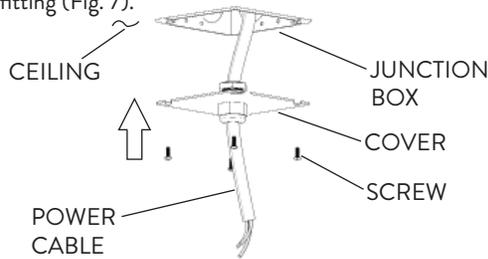
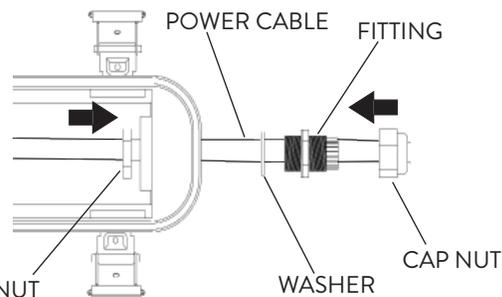

FIG. 6
FIG. 7
- 2 Install the Power Cable to the FVTB fixture. Make sure the Power Supply is disconnected prior to installation. Secure the Cover to the Junction Box (Fig. 6). Open the FVTB fixture. Refer to Fig. 1, 2, and 3. Fasten the fittings to the end of the fixture by hand (Fittings are plastic, no tools needed). Slide the Power Cable through the fixture hole and fitting (Fig. 7).